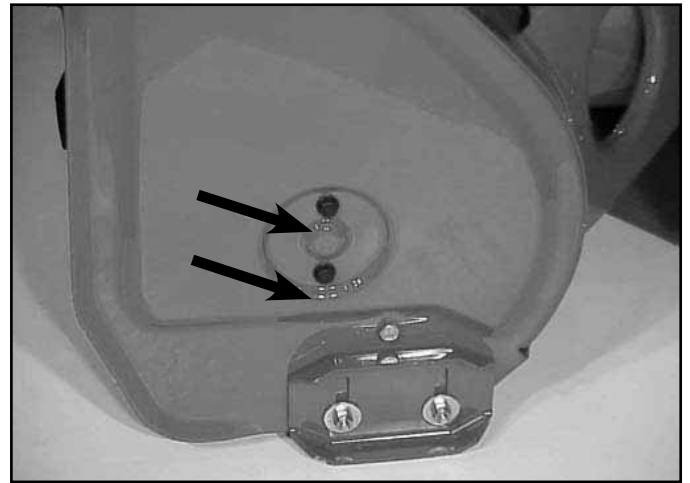

Fig 081
9. Remove two capscrews on each side that secure the auger bearings to the auger side plate (Fig. 081).